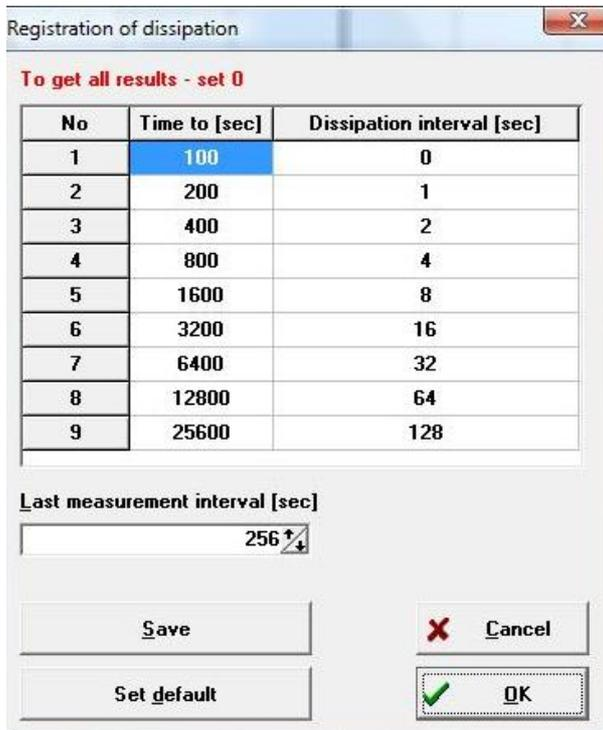

Fig. 3-7: Dissipation Test, Acquisition Parameters, Press Shift+Ctrl+F3
- In case dissipation tests are planned, go to Options- **Registration of dissipation** – Shift+Control+F3 (Fig. 3-7) and set the acquisition parameters. If long tests are to be carried out, longer registration intervals after the first minutes will dramatically reduce the size of the file.